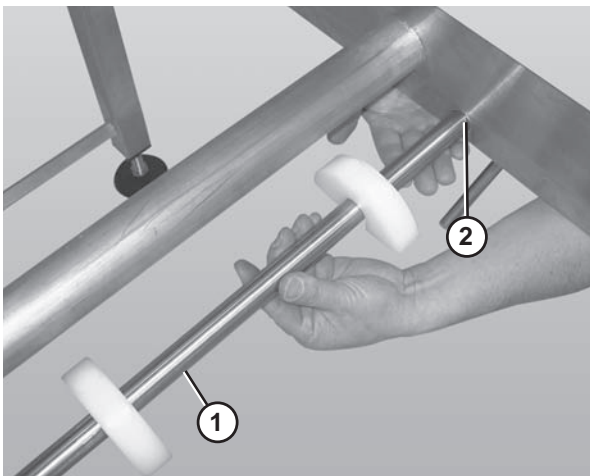

Figure 59
1. Remove the belt returns by pushing up on the return shaft (Figure 59, item 1) and sliding it through the large hole (Figure 59, item 2) in the frame.
2. Lower the opposite end of the return shaft (Figure 59, item 1) and slide it out of the frame.